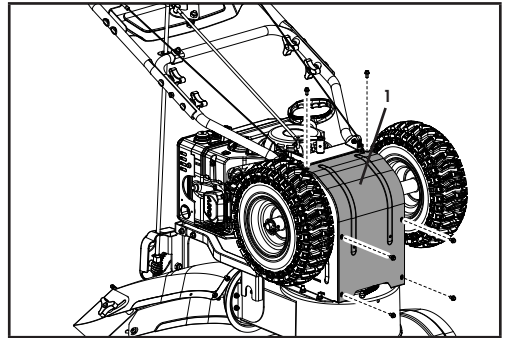

Figure 44A
2. Remove the base frame cover (1) from the underside of the snowblower by removing the six M6 × 16 screws which secures it (Fig. 44A).